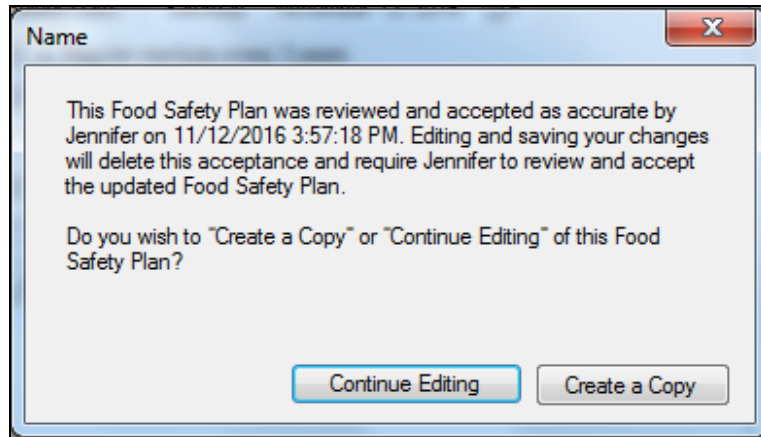

Figure 82: Modify Food Safety Plan Confirmation Message
- Navigate to the *Food Safety Plan* tab and scroll to the bottom of the last page; "Signature" and "Date/Time" fields are displayed (Figure 82)